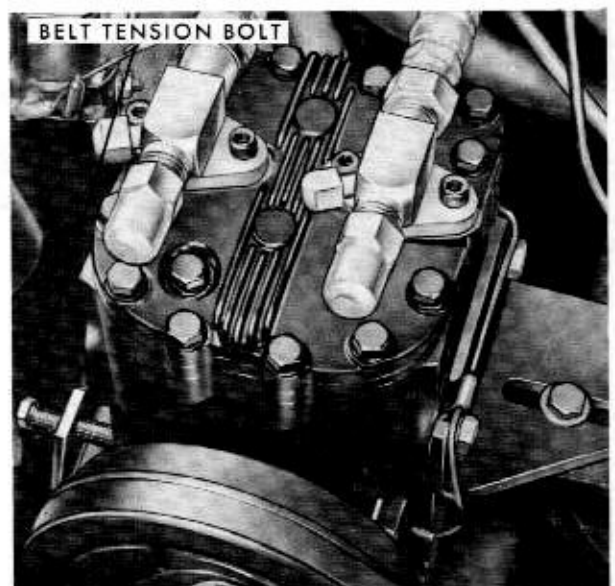

Fig. 6A-6—Belt Replacement—(61CT-8806)
5. Loosen the compressor mounting bolts and the belt tension adjusting bolt. (See figure 6A-6.)